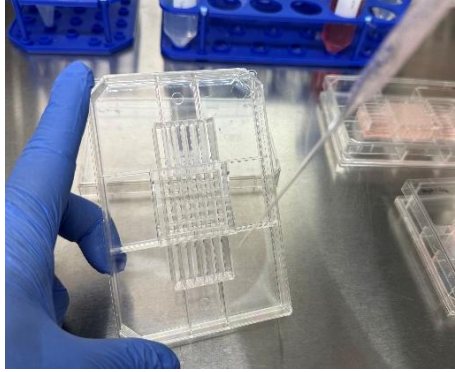

Figure 7. Vacuum aspiration of the old medium from the far end of the lower reservoirs.
- While holding the perfusion plate at approximately a 45° angle, allow the old cell culture medium to drain toward the lower reservoirs. Aspirate and remove the medium completely from the far end of the lower reservoirs using a Vacusafe vacuum aspiration system (Integra Biosciences) (**Fig. 7**).